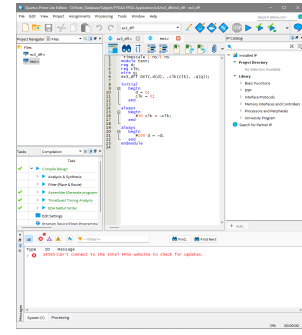

Figure 37: Test code
3. Create a testbench file named "test.v". (Figure 37)